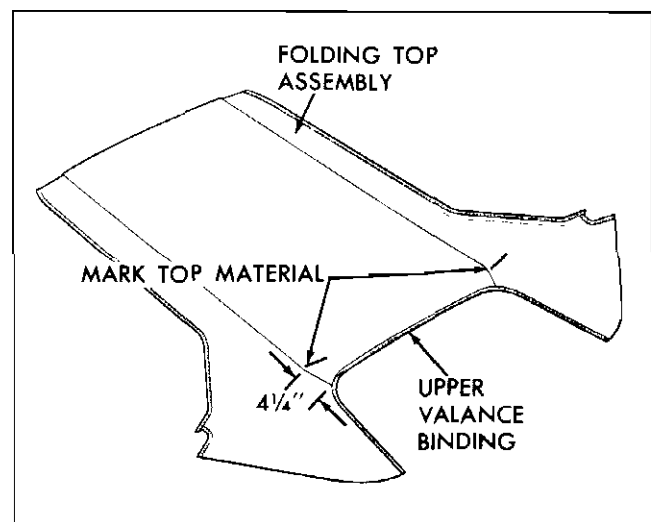

Fig. 7-43 Marking Top Material
22. Using a pencil, mark top material (mark should be approximately 1/2" in length) at deck seam 4 1/4" from edge of top material upper valance binding (Fig. 7-43).